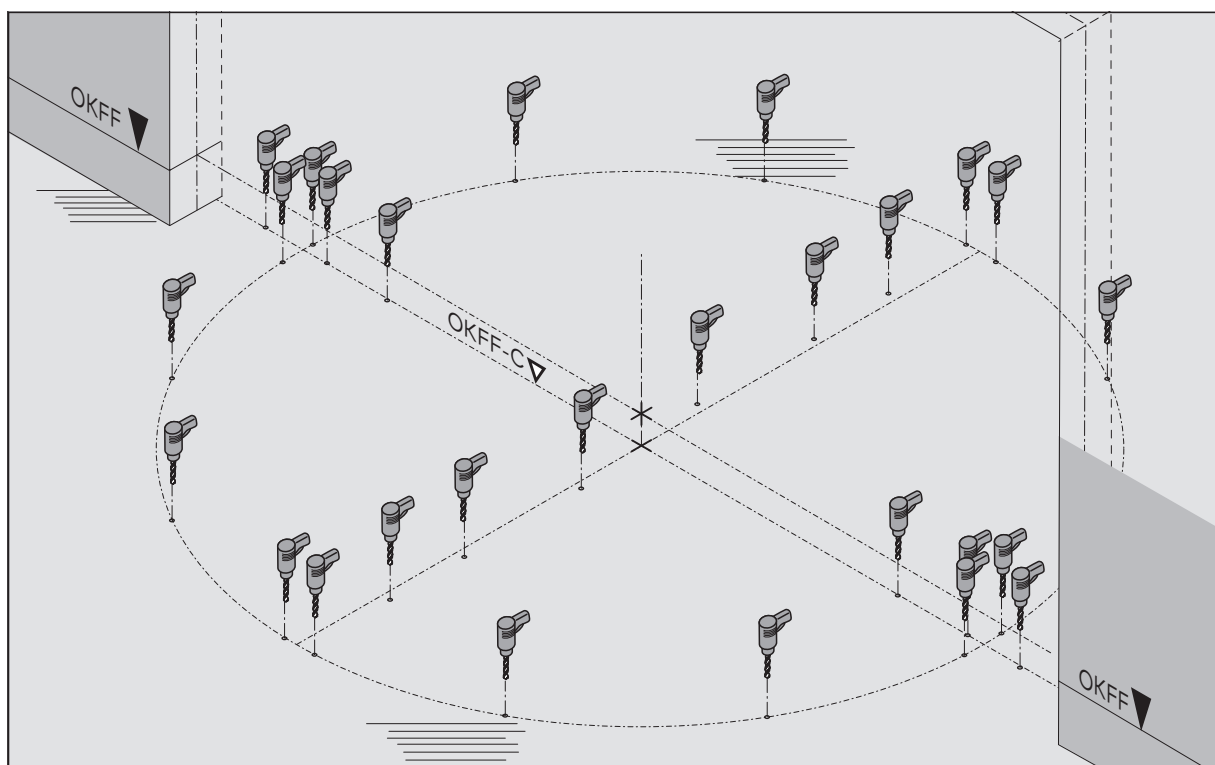

Fig. 11 Drill the holes
7. Drill the marked holes (Fig. 11).